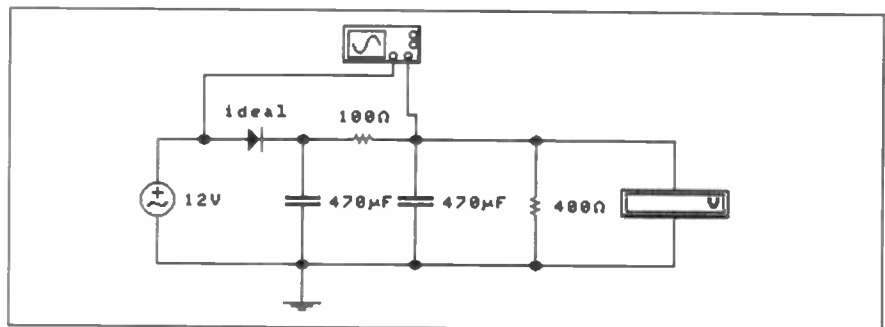

Fig. 3.20 Half-wave rectifier with smoothing filter.
7. Next, add an R-C filter to the circuit by connecting a 100Ω resistor in series with the d.c. output from the rectifier and a second 470μF capacitor in parallel with the output (as in Fig. 3.20). Once again, note the shape of the output waveform and record the measured value of d.c. output voltage and the peak-peak ripple voltage.